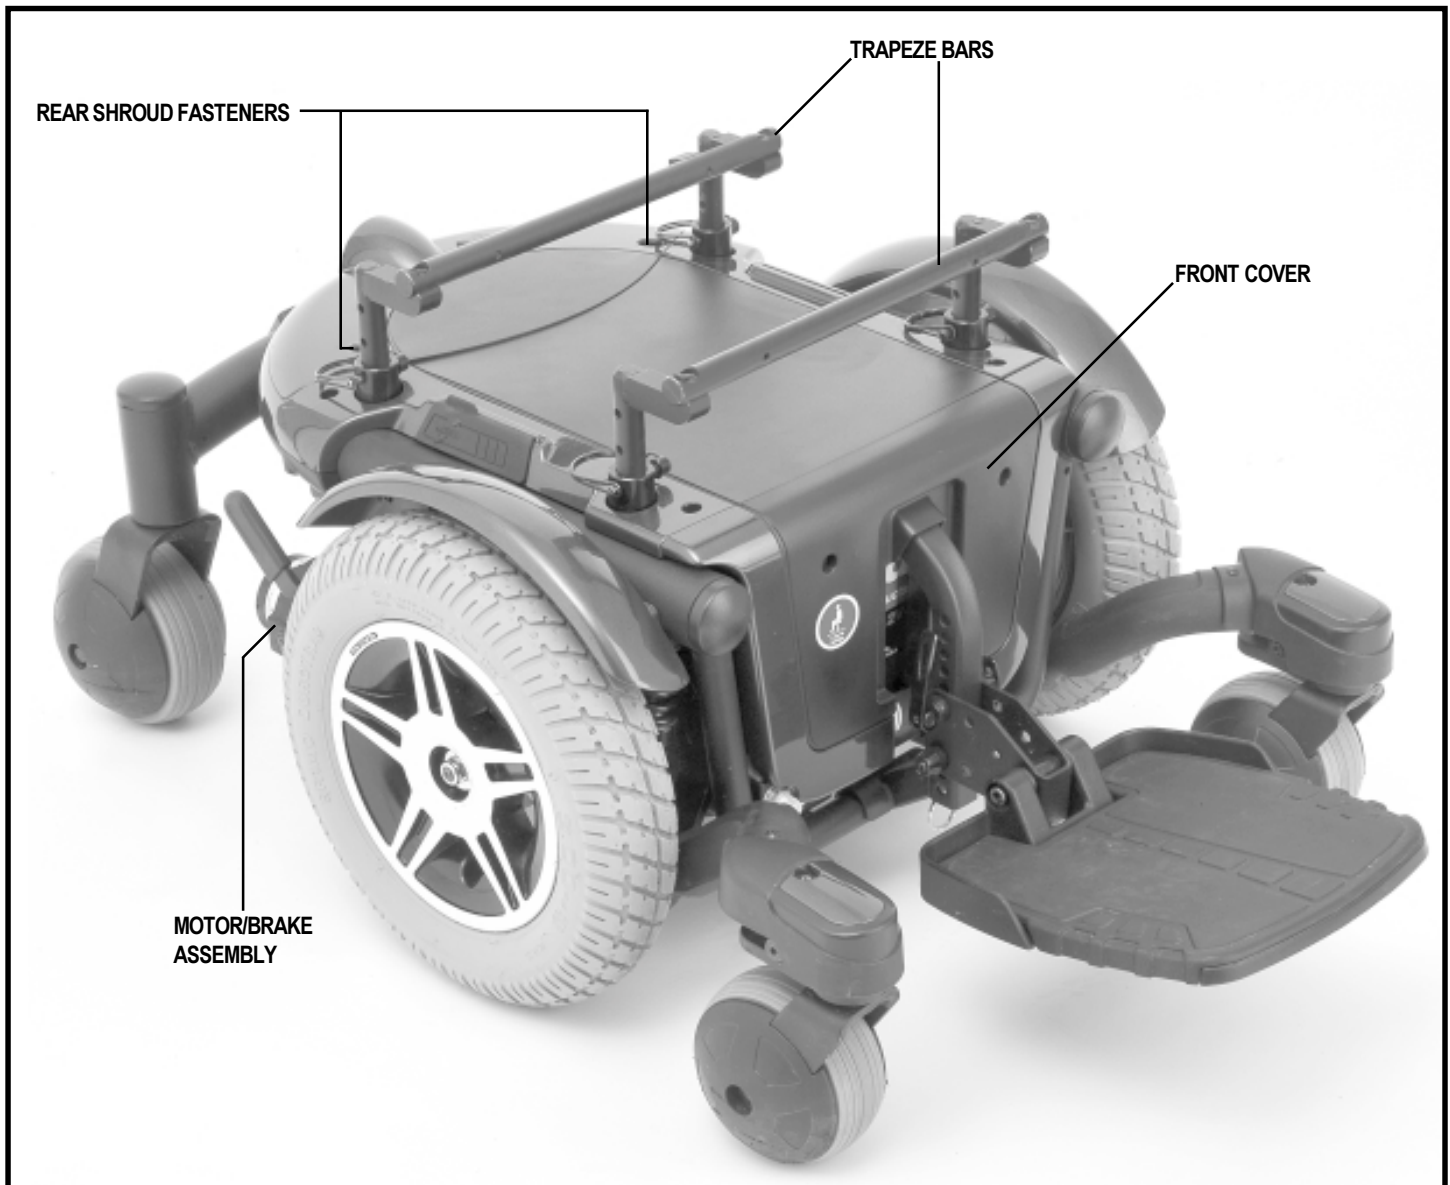

Figure 6. The Jazzy 600 Power Base
6. Turn the rear shroud fasteners one-quarter turn in any direction. See figure 6.
2. Turn the rear shroud fasteners one-quarter turn in any direction and remove the rear shroud cover. See figure 6.